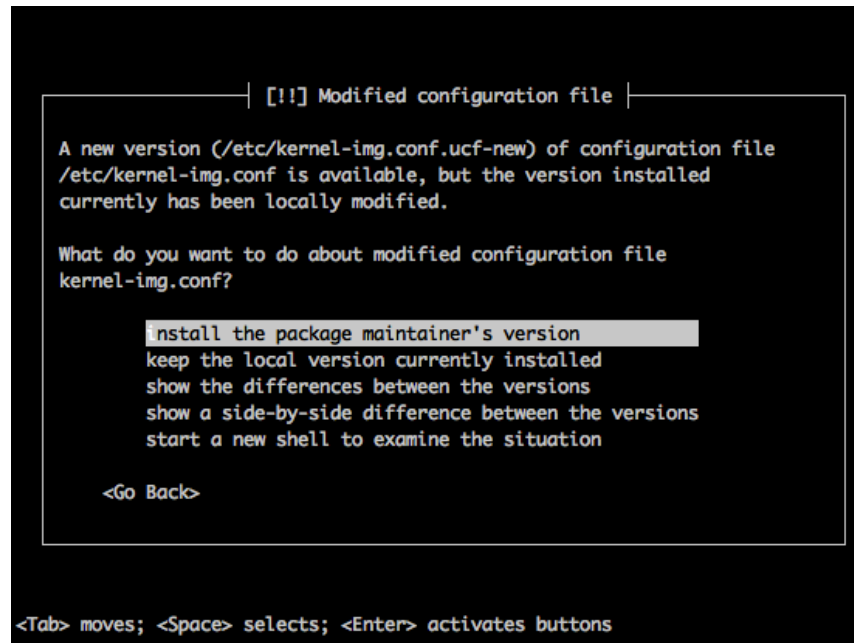

Figure 7.6 — Modified Configuration File
11. Select **install the package maintainer's version**, as shown in Figure 7.6.